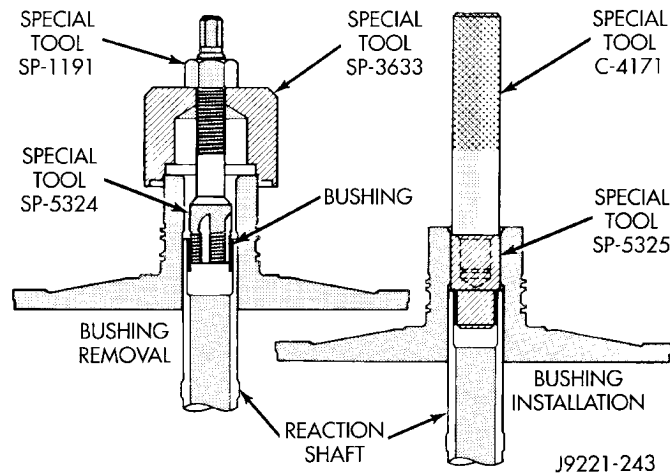

Fig. 146 Replacing Reaction Shaft Support Bushing
(1) Assemble Bushing Remover Tools SP-1191, 3633 and 5324 (Fig. 146). **Do not clamp any part of reaction shaft or support in vise.**
(2) Hold Cup Tool SP-3633 firmly against reaction shaft and thread remover SP-5324 into bushing as far as possible by hand. Then thread remover tool 3-4 additional turns into bushing with a wrench.
(3) Turn remover tool hex nut down against remover cup to pull bushing from shaft. Clean all chips from shaft after bushing removal.
(4) Lightly grip old bushing in vise or with pliers and back remover tool out of bushing.
(5) Assemble Bushing Installer Tools C-4171 and SP-5325 (Fig. 146).
(6) Slide new bushing onto Installer Tool SP-5325.
(7) Position reaction shaft support upright on a clean smooth surface.
(8) Align bushing in bore. Then tap bushing into place until Bushing Installer SP-5325 bottoms.
(9) Clean reaction shaft support thoroughly after installing bushing.